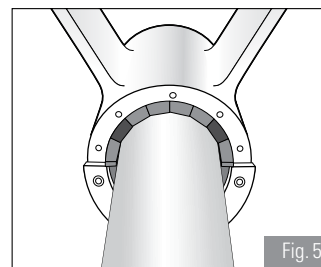

Fig. 5
1. Untighten socket head cap screws and remove compression head halves (see Fig. 5). Insert coarse threaded eyebolt or self-expanding bolt in the hole of one of the upper staves (either rubber locking or DMX®-LSS). Withdraw the first stave with the help of a pulley.